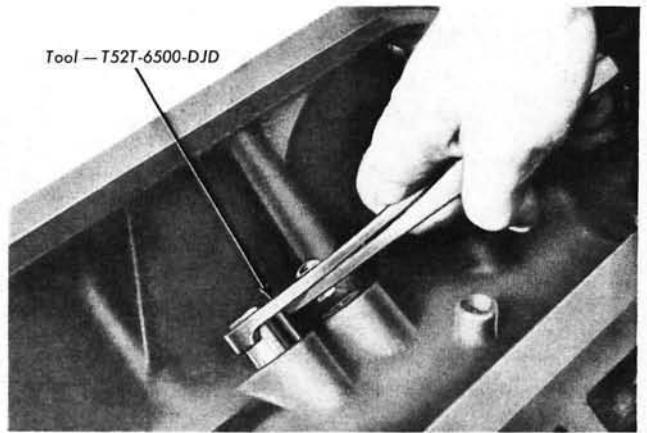

FIG. 50—Valve Tappet Removal—302 or 332 Engine
2. Remove the camshaft gear, fuel pump eccentric, thrust plate, woodruff key, and spacer. Remove the valve tappets (Fig. 50). Keep the tappets in order so they can be replaced in their original position.
Oil the new tappets before installation. Remove and replace one tappet at a time. If the tappets are difficult to remove, use the tool shown in Fig. 50.